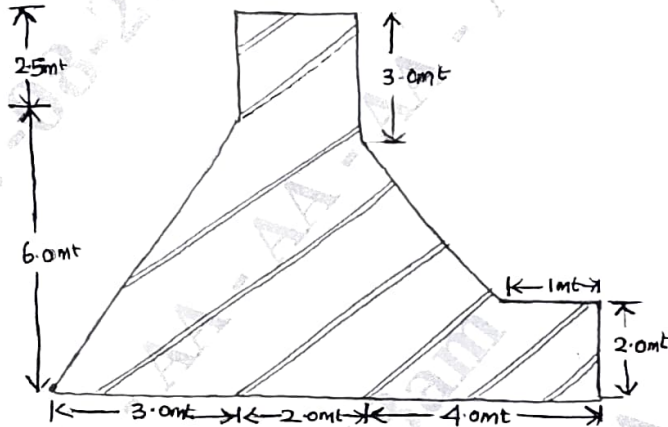

Fig. Q1 (b)
b. Determine the centroid of shaded portion in the Fig. Q1 (b).